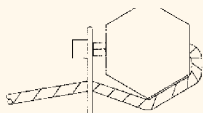

FIGURE 4: Self Looping Safe-T-Cable® in High Bend Exit Application
1.3.12. In applications where Safe-T-Cable® shall be required to exceed the 135° maximum bend exit limit in order to achieve neutral to positive pull on a threaded fastener head, a self looping device which is secured to the Safe-T-Cable® by the Safe-T-Cable® manufacturer may be used to obtain a secured installation as shown (Figure 4).